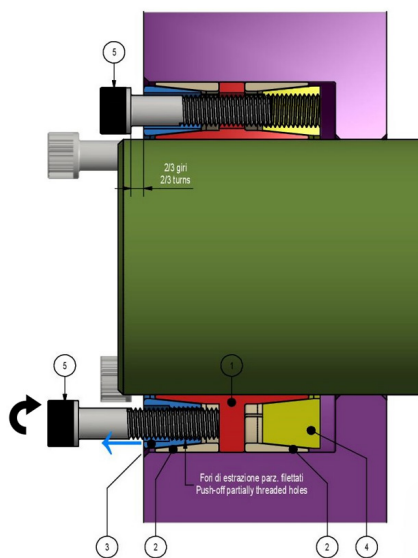

Fig. 5
3. Transfer some screws into all push-off partially threaded holes in the front thrust ring. **Progressively tighten these screws in a crosswise pattern, using approx. ¼ turns for several passes** until front thrust ring is released (fig. 5). **Leave the screws in place after front thrust ring is released.**